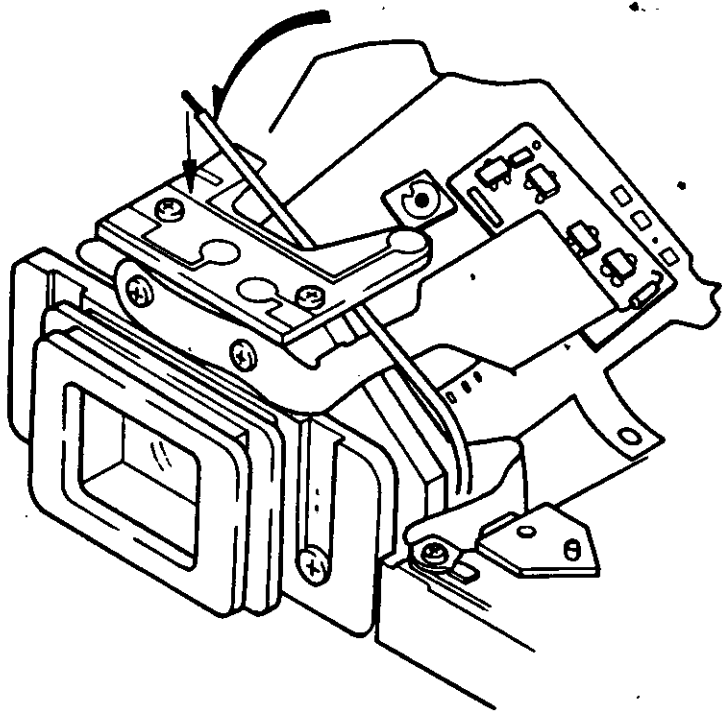

Fig. 37
- 2) Fix BLACK LEAD WIRE to the synchro base plate as shown in Fig. 37.